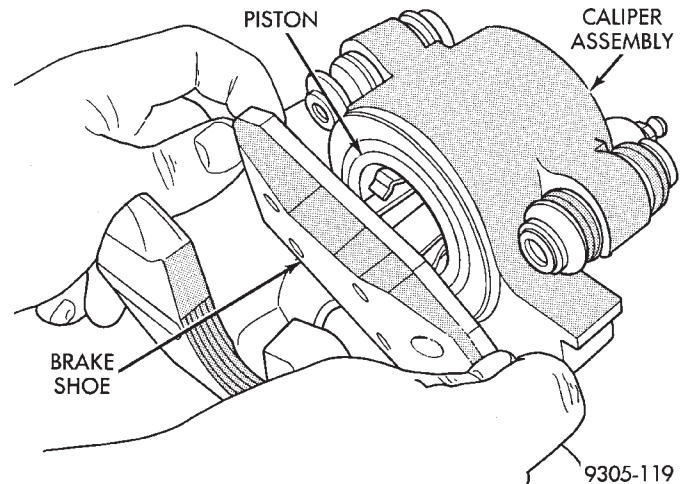

Fig. 35 Inboard Brake Shoe
(4) Pull inboard brake shoe away from piston, until retaining clip is free from cavity in piston (Fig. 35).
(4) Install the new inboard brake shoe assembly into the caliper piston by firmly pressing it into bore of caliper piston with thumbs (Fig. 35).